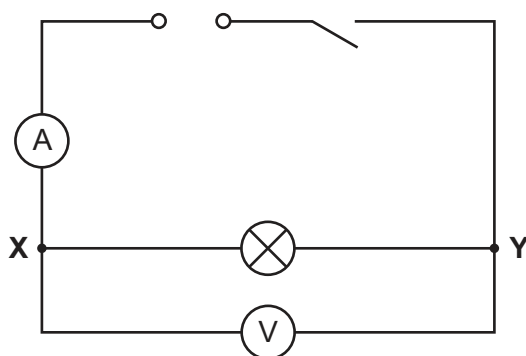

Fig. 6.1
sufficient connecting leads to set up the circuit shown in Fig. 6.1
- The circuit is to be set up for candidates as shown in Fig. 6.1. Points **X** and **Y** must be labelled.
Reconnect the circuit as shown in Fig. 6.1.